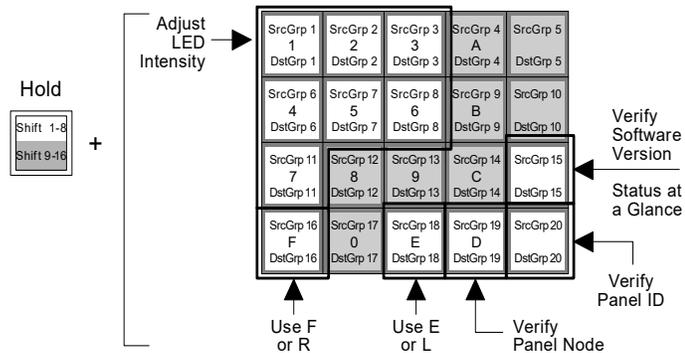

Figure 9-29. Panel Buttons used for Miscellaneous Panel Modes
2. While holding, press one of the first seven keypad buttons, as shown in Figure 9-29. Button **1** is the brightest setting; button **7** is the dimmest setting. (Even on the dimmest setting the LEDs are never completely off.)
2. While holding, press keypad button **D** as shown in Figure 9-29. (This button may also be labeled as **Group 19** on your panel.) In the **Destination/Level Display**, the panel's node address appears.
2. While holding, press the keypad **Group 20** button as shown in Figure 9-29. In the first three **Source Displays**, the panel's ID appears.
2. While holding, press the keypad **Group 15** button, as shown in Figure 9-29. In the **Destination/Level Display**, the panel's software version appears.
2. While holding, press the keypad **Group 18** button for 2 seconds, as shown in Figure 9-29. The panel toggles the extension between **E** and **L**, and the **Destination/Level Display** shows the current button assignment.
2. While holding, press the keypad **Group 16** button for 2 seconds, as shown in Figure 9-29. The panel toggles the extension between **F** and **R**, and the **Destination/Level Display** shows the current button assignment.
- While holding, press the keypad **Group 15** button, as shown in Figure 9-29. In the **Source Display Section**, the status of each special mode appears.